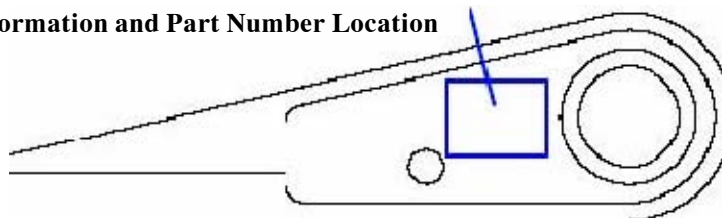

Figure 14-29D. Bail Eye
7. Verify Serial Number on case with basket. (Figure 14-29D) Insert basket into storage case and close.